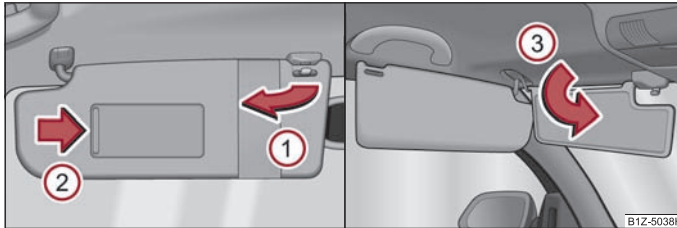

Fig. 48 Sun visor: Swivelling out/double sun visor
You can pull the sun visor for the driver or front passenger out of the fixture and swivel it toward the door in the direction of the arrow (1) ⇒ fig. 48.